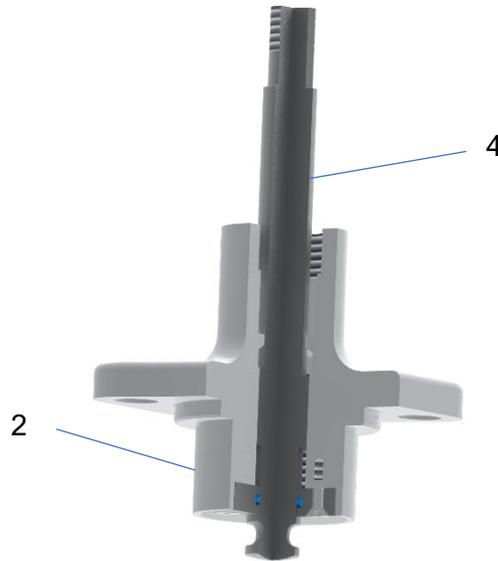

Figure 10
11.14. Place the bonnet (2) in a fixture with the top of the bonnet (2) vertically up as shown in Figure 10.